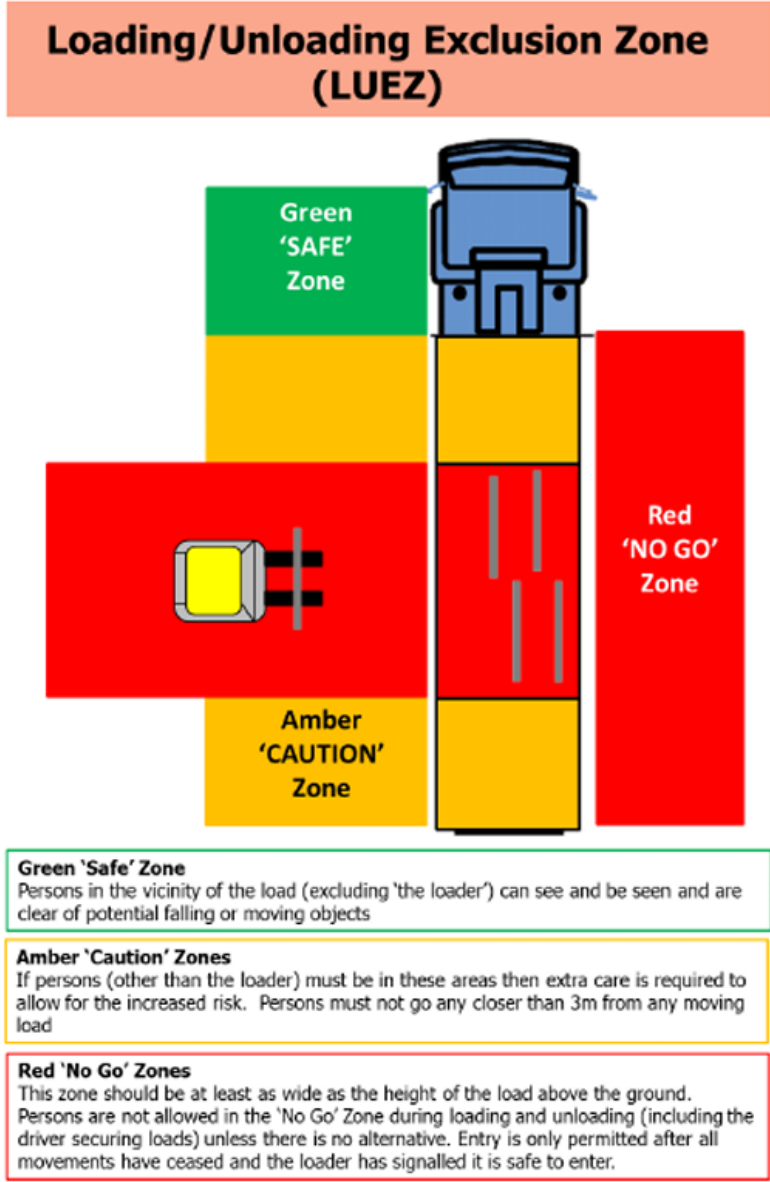

Figure 1 - Loading and Unloading Zones (LUEZ)
- Mass and dimension (refer to figure 1 & 2 below for dimension limits)